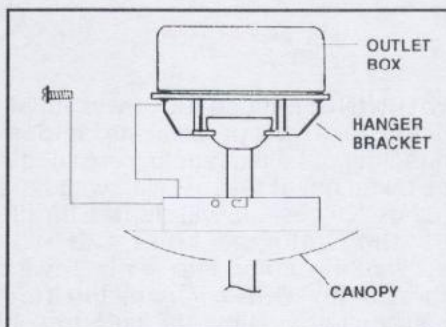

FIG. 16
**Step 2.** Remove two of the four screws from the Hanging Bracket, loosen the other two screws but do not remove. Slide the Canopy up against the ceiling, engage the Canopy key holes onto the two screws left attached to the Hanging Bracket. Turn the Canopy until the holes are aligned. Install the other two screws previously removed and securely tighten all four screws. (Fig. 16)